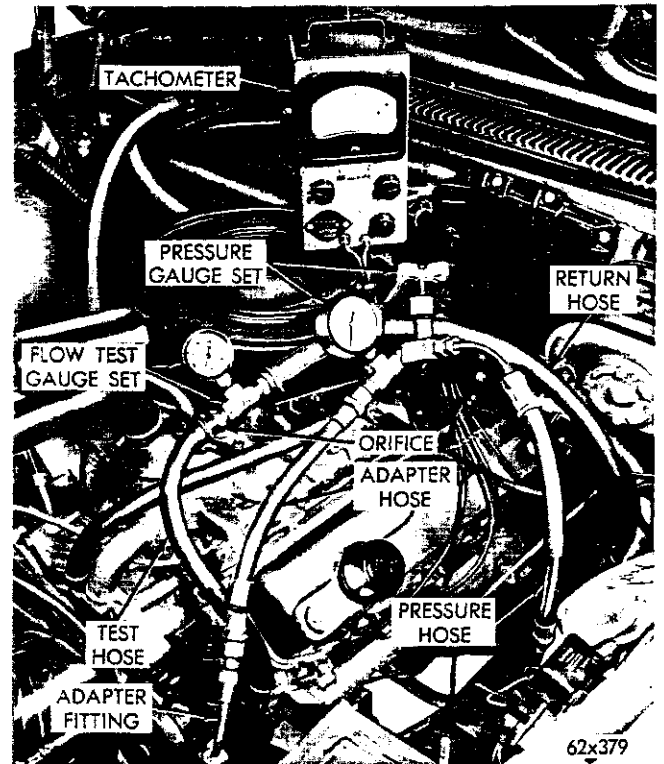

Fig. 56—Flow Test Gauge Connections
(4) Install the flow checking gauge set Tool C-3885 with the special hose between the power steering pump and the return hose disconnected from the pump (Fig. 56).
The fitting that has the restriction; and the arrow on the "tee" connector (Fig. 56) must be towards the power steering pump. Use passenger car orifice only.